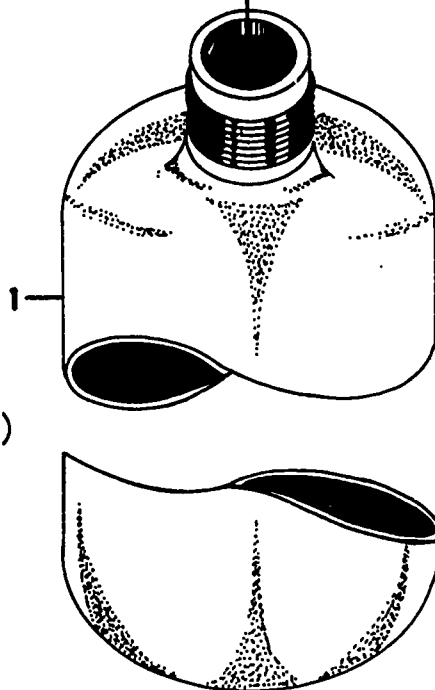

Figure 1 Inflation Assembly (Bendix)
2. Note figure 2. Remove cylinder adapter (5, figure 1) insert the end of a small paper clip in the slot in the side of the locking sleeve (3, figure 1) and push the spring slip lock to release the locking sleeve.
3. Lower the locking sleeve and remove the cable and ball assembly (4, figure 1).